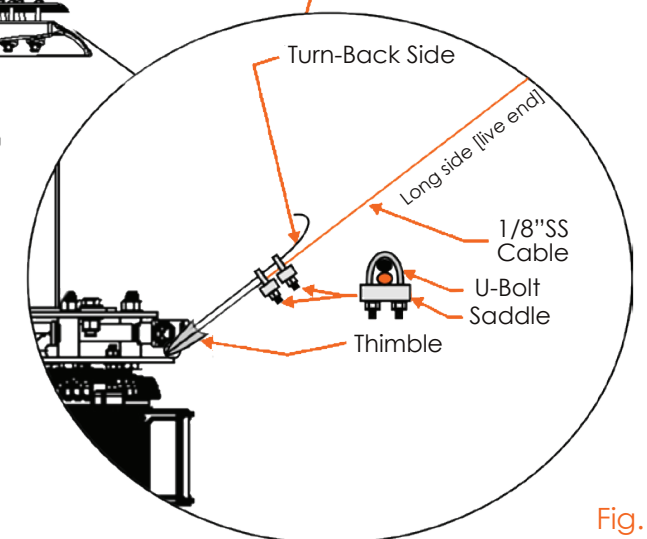

Fig.16
4. Secure it with 1 thimble and 2 cable clamps [Fig.16]. Repeat using the other 3 pieces of guy wire cables, thimbles and cable clamps [Fig.16].